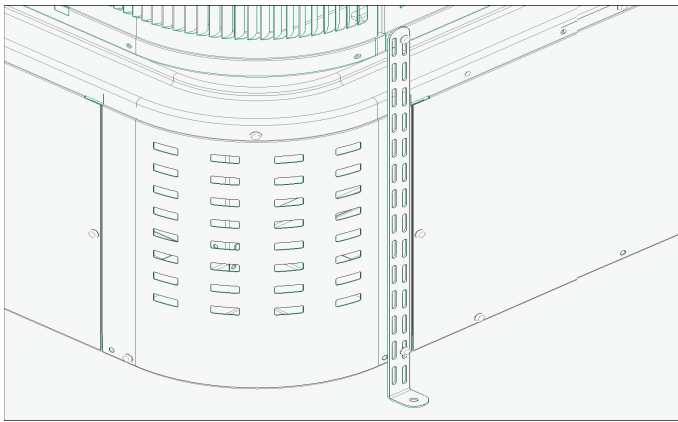
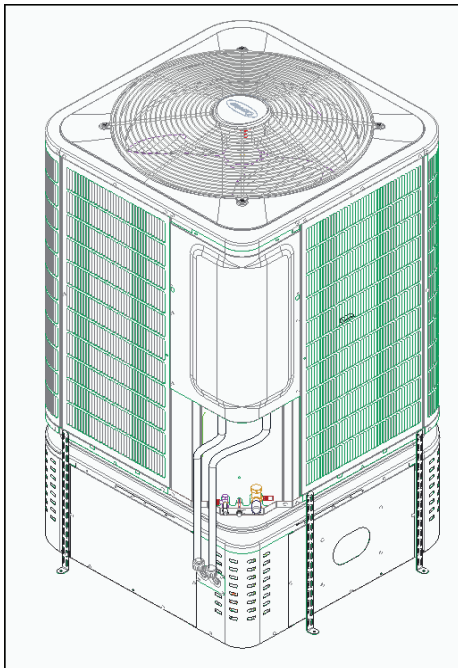

Fig. 1 – Anchor Strap Tiedown and Location
Fig. 3 – ODU Unit Installed on Enclosure
This unit is required to be attached to a ground-level concrete or composite pad. Anchor straps for tie down must be used and screwed to the outdoor unit base pan as well as the Enclosure top and base pan (see Fig. 1). Refer to unit mounting pattern in Fig. 3 to determine anchor strap tie down locations.
2. Once the Enclosure is installed, the outdoor unit can be installed on top of the Enclosure. See Fig. 3.
3. Install required anchor strap tie downs. Refer to Fig. 1